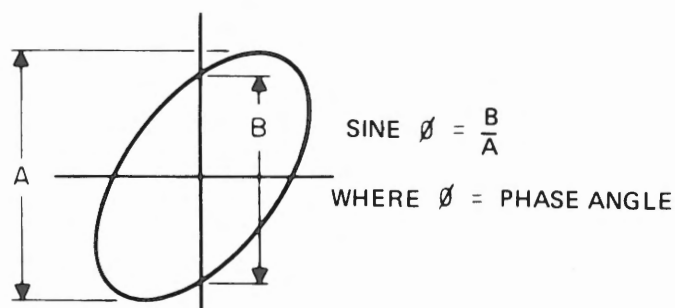
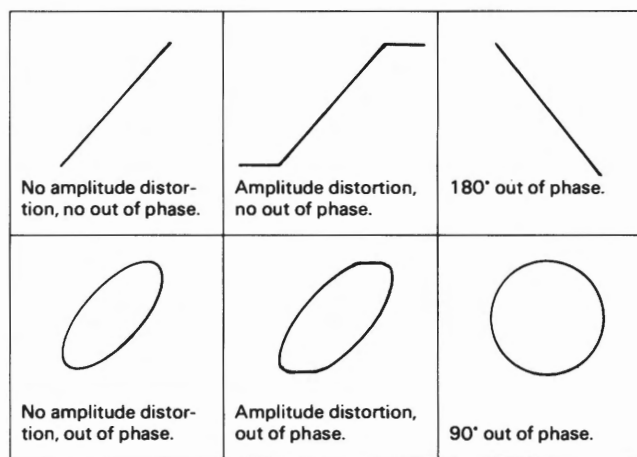

Fig. 33
Fig. 34
7. Some typical results are shown in Fig. 34. If the two signals are in phase, the Lissajous' pattern is a straight diagonal line. If the vertical and horizontal gain are properly adjusted, this line is at a 45° angle. A 90° phase shift produces a circular Lissajous' pattern. Phase shift of less (or more) than 90° produces an elliptical Lissajous' pattern. The amount of phase shift can be calculated from the oscilloscope trace as shown in Fig. 33.